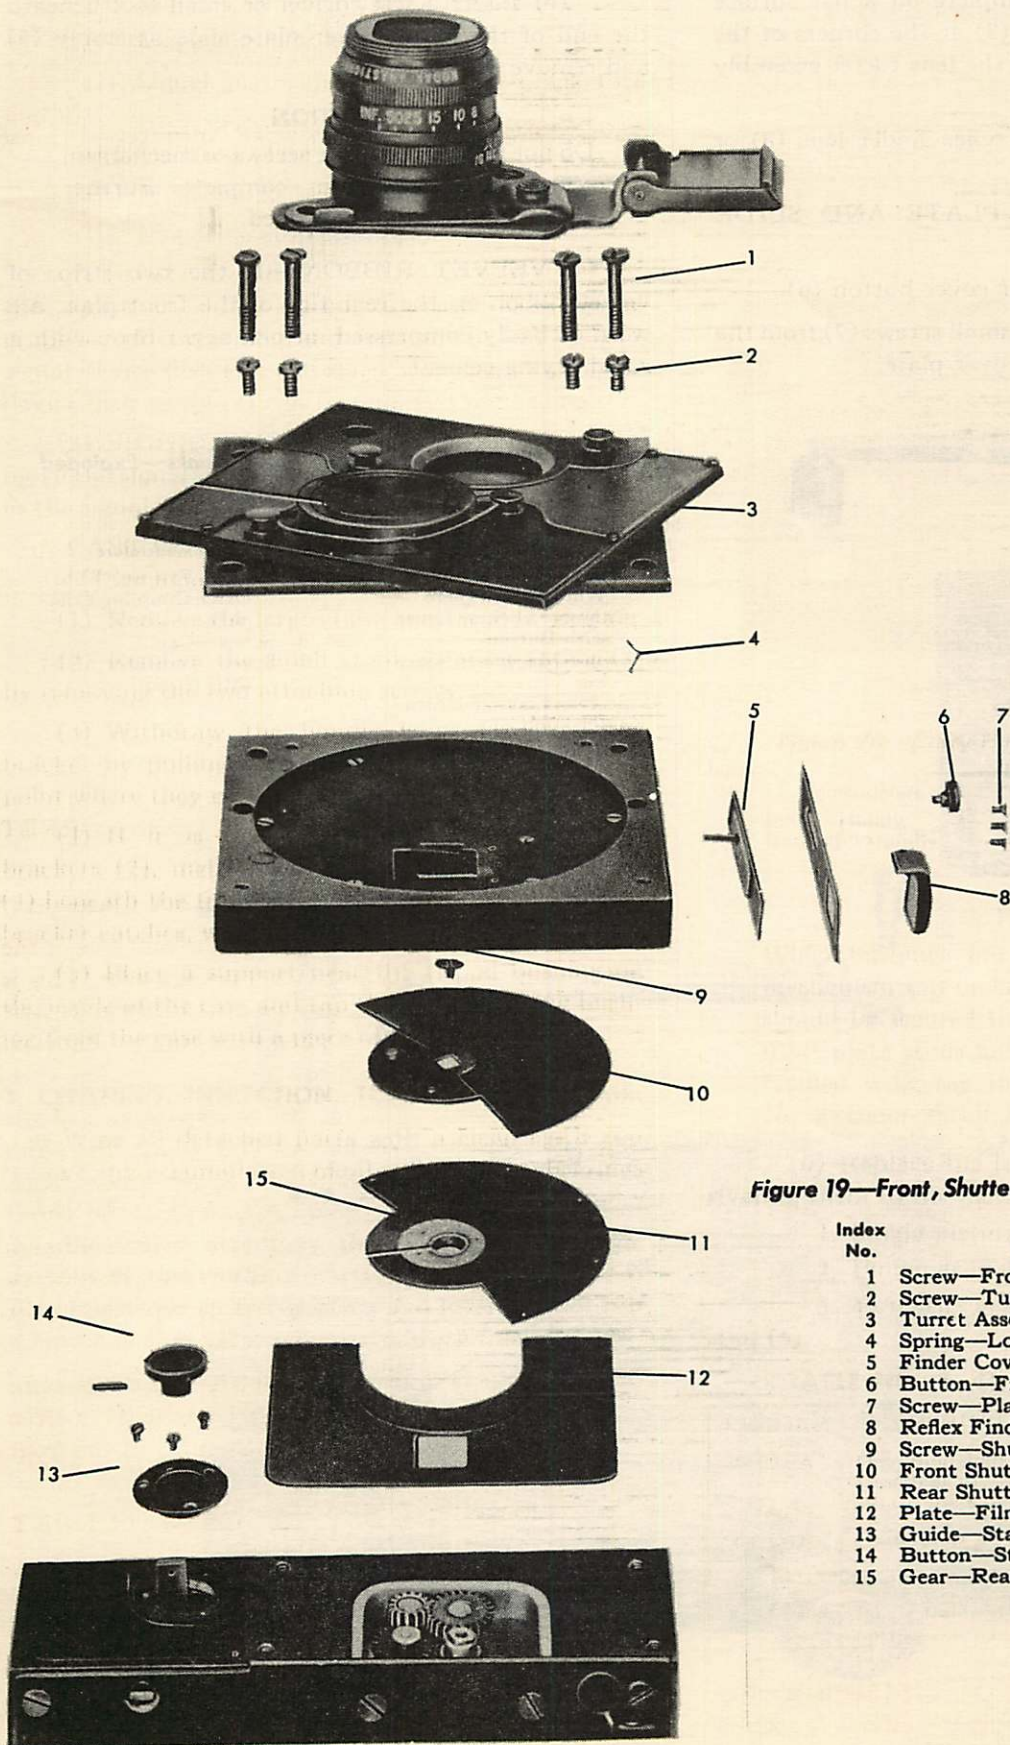

Figure 19—Front, Shutter, and Turret—Exploded View
b. FRONT COMPLETE WITH LENS TURRET ASSEMBLY. (See figure 19.)
(1) REMOVAL FROM CAMERA CASE.
c. SHUTTER. (See figure 19.)
(1) Press the starting button and let the mechanism run a second or two; then release the button.
(2) Set the shutter operating lever to the "OPEN" position.
(3) With a pencil, make a mark on the edge of the shutter gear box and front of the chamber along the straight edge of the shutter blade. This mark will act as a guide for properly replacing the shutter during reassembly. Be sure the shutter operating lever is set at "OPEN" before making this mark.
(4) Remove the screw (9) from the center of the shutter blades and carefully lift off the front shutter blade (10). Then remove the rear blade (11). Be careful to disengage the gears.
g. STARTING BUTTON AND STARTING LEVER GUIDE. (See figure 19.)
(2) Place a support under the starting button (14, figure 19) and drive out the taper pin which holds the starting button to the starting lever. Remove the button.
(3) Take out the three screws which hold the starting lever guide (13) to the camera case and lift out the guide.